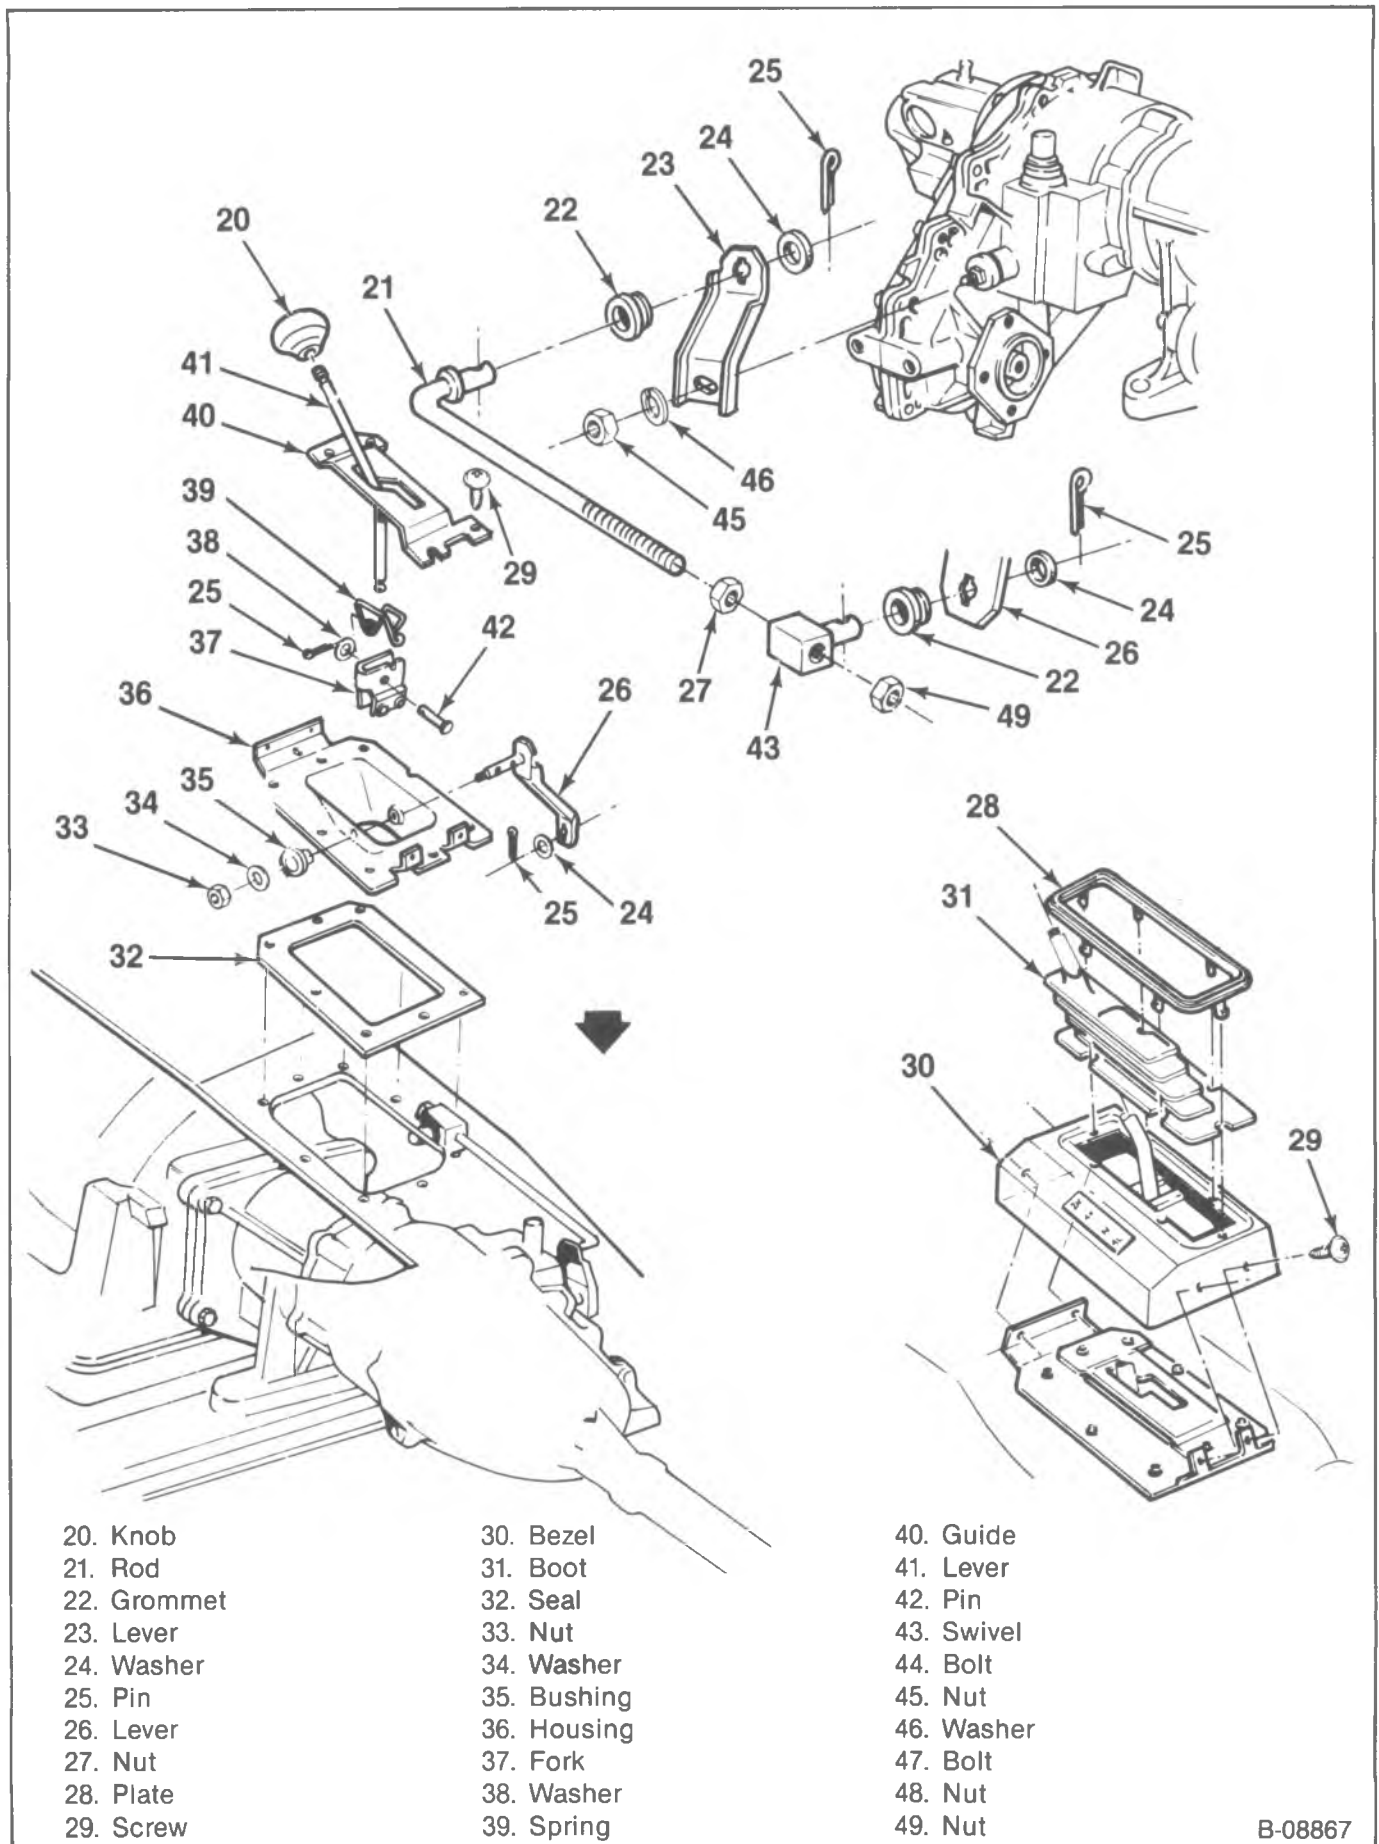
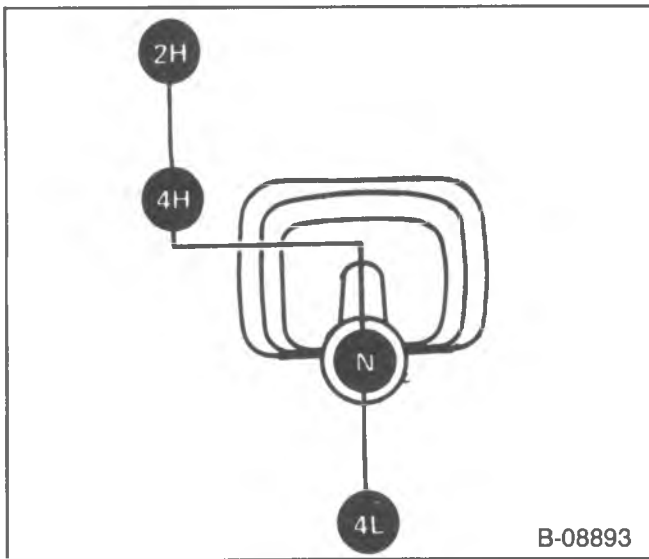

Figure 2—Console and Shift Control Component View
Figure 3—Shift Lever
A floor mounted shift lever is used to select the operating range (figure 2). The shift lever is located on the floorpan transmission tunnel adjacent to the transmission gearshift lever. The shift pattern is not in a straight line for 208 models (figure 3).
An indicator lamp mounted in the instrument panel, alerts the driver whenever the vehicle is being operated in four-wheel range. An indicator switch in the transfer case controls the light (Figure 2).
↔ Remove or Disconnect (Figures 2, 5, 6 and 7)
1. Cotter pin from the shift lever swivel (figure 2).